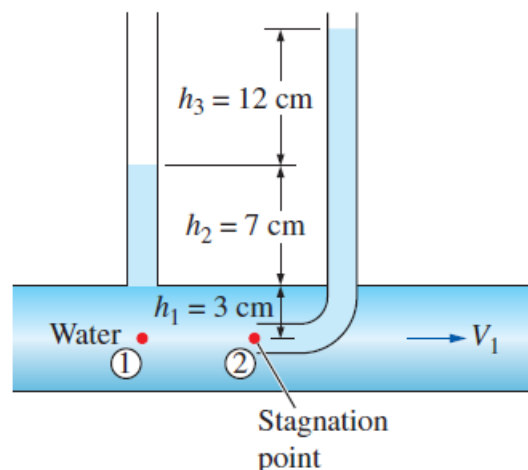

Figure 2: Schematic for problem 4c.
- c) A piezometer and a Pitot tube are tapped into a horizontal water pipe, as shown in figure 2, to measure static and stagnation (static + dynamic) pressures. For the indicated water column heights, determine the velocity at the center of the pipe.